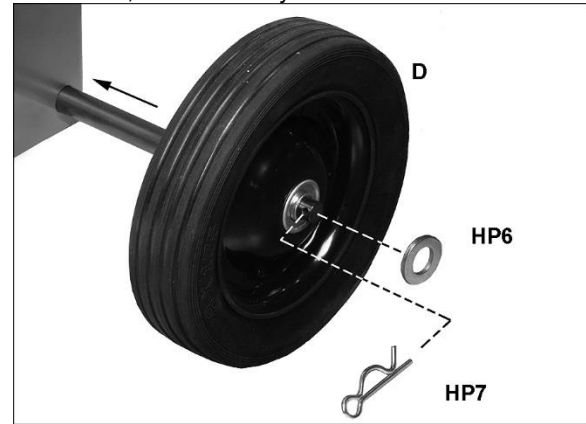

Figure 6-3: installing wheels
2. Slide axles through holes in stand and install four wheels with flat washers and cotter pins (Figure 6-3). Bend ends of cotter pins to secure wheel, then carefully lower saw to floor.